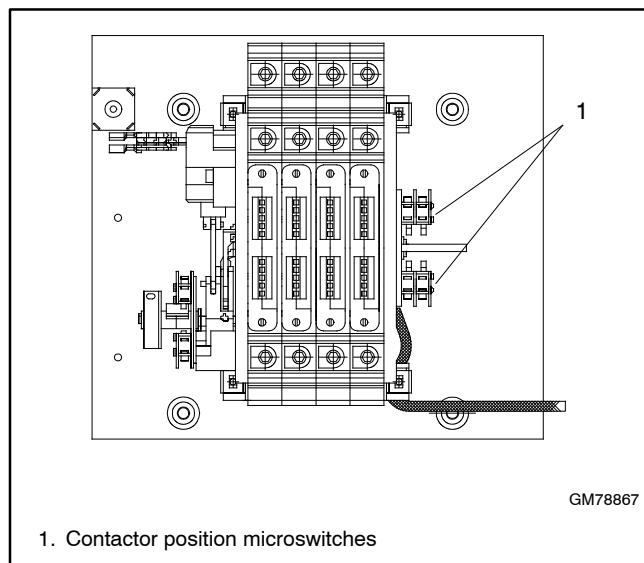

Figure 5-12 Position-Indicating Microswitches, 100/200-Amp 3-Phase Models
5. See Figure 5-12 or Figure 5-13 for the position-indicating microswitch locations.